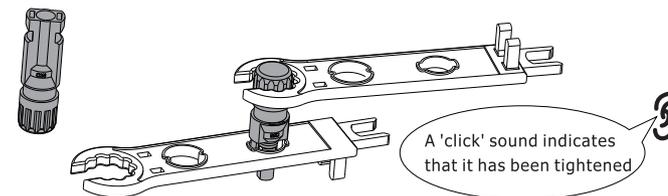

Figure 4.1-5 Connector with cap nut screwed on
**Setp3.**Insert the contact pin to the top part of the connector and completely tighten the cap nut to the top part of the connector,as shown in Figure 4.1-5.